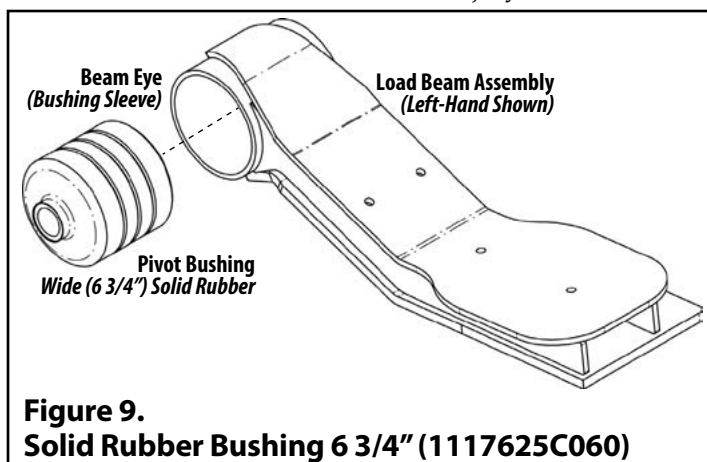

Figure 9.
- Remove bushing from load beam. (Figure 9).